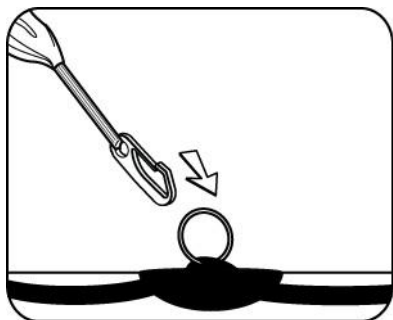

**FIGURE 11**
4. Locate two black Velcro® patches along the inside top of orange canopy fabric. Affix Velcro® to mating Velcro on top of yellow arch tube (See Figure 11).